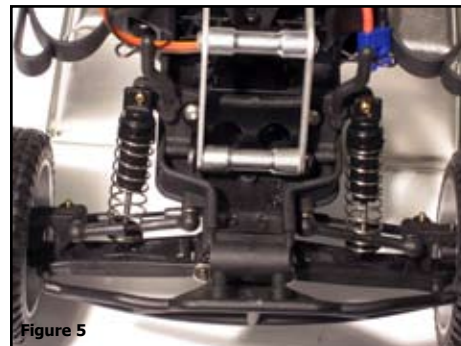

Figure 5
5. Rotate the cage into position, with the *hoop* against the back side of *Cagemount 2*. Attach the back of the cage to the rear bumper support bracket with the original screws as shown in *Figure 5*. Secure the *hoop* to *Cagemount 2* with *M3x8 BHCS* and *M3 lock nuts* as shown.
4. Attach the front of the cage to *Cagemount 1* with *M3x8 BHCS* as shown in *Figure 5*. The cage rails go inside the tabs of *Cagemount 1*. Don't tighten the screws yet.